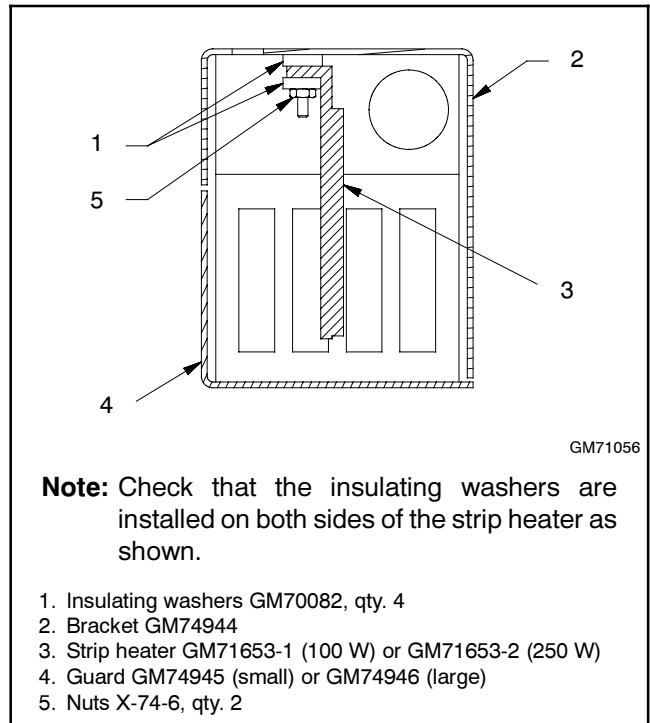

Figure 3 Strip Heater Detail with Insulating Washers
10. Check that the insulating washers are installed on both sides of the strip heater as shown in Figure 3.